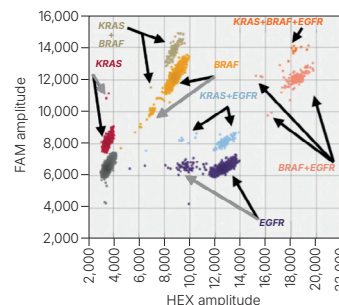

Fig. 27. 2-D plot for two wells of positive control.
- Observe the positive control wells to ensure that each plot has the expected negative and positive clusters. Refer to Figure 27 for an example 2-D plot of positive control. When variants are present it is expected for subclusters to occur, as designated in Figure 27 with gray arrows. These subclusters may increase in size and density as variant concentration increases.